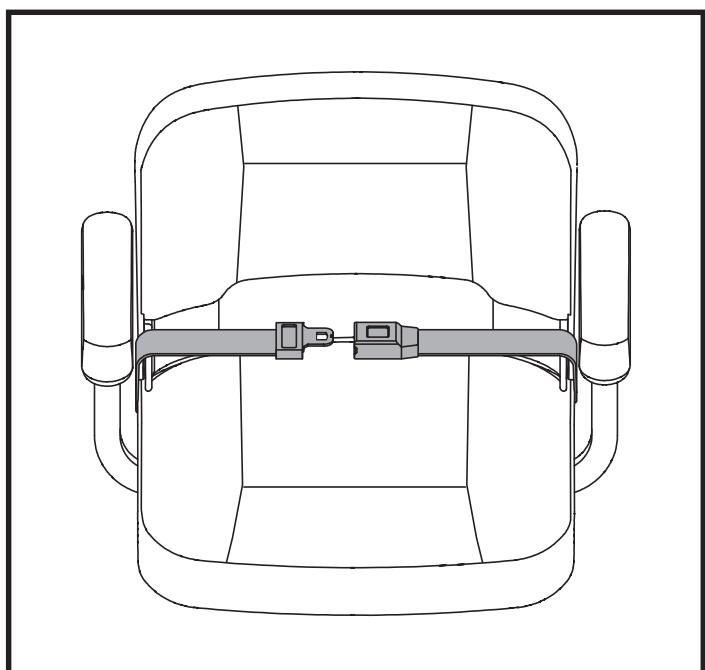

Figure 24. Positioning Belt - Metal Tab Style
1. Insert the metal tab on the right side of the belt into the plastic housing on the opposite strap until you hear a “click.” **See figure 24.**